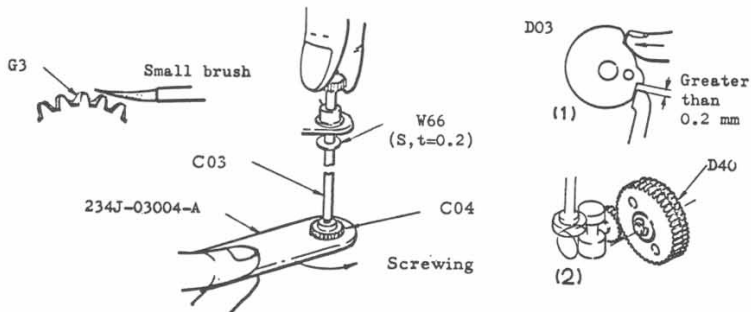

Fig. 4-51
Turn the wind lever until it stops and hold it. (Curtain charge gear adjustment must be finished. Otherwise, it might damage the curtain or curtain tapes.) Then, turn the Timing cam(D03) counterclockwise with your finger. More than 0.2 mm clearance must be observed at the top of the Timing checker lever(D40) as shown in Fig. 4-51.
- 6 Finishing the adjustment, install the LW24 to the shaft. Apply sufficient G3 to the mirror charge 4th gear with a small brush, as shown in Fig. 4-51.